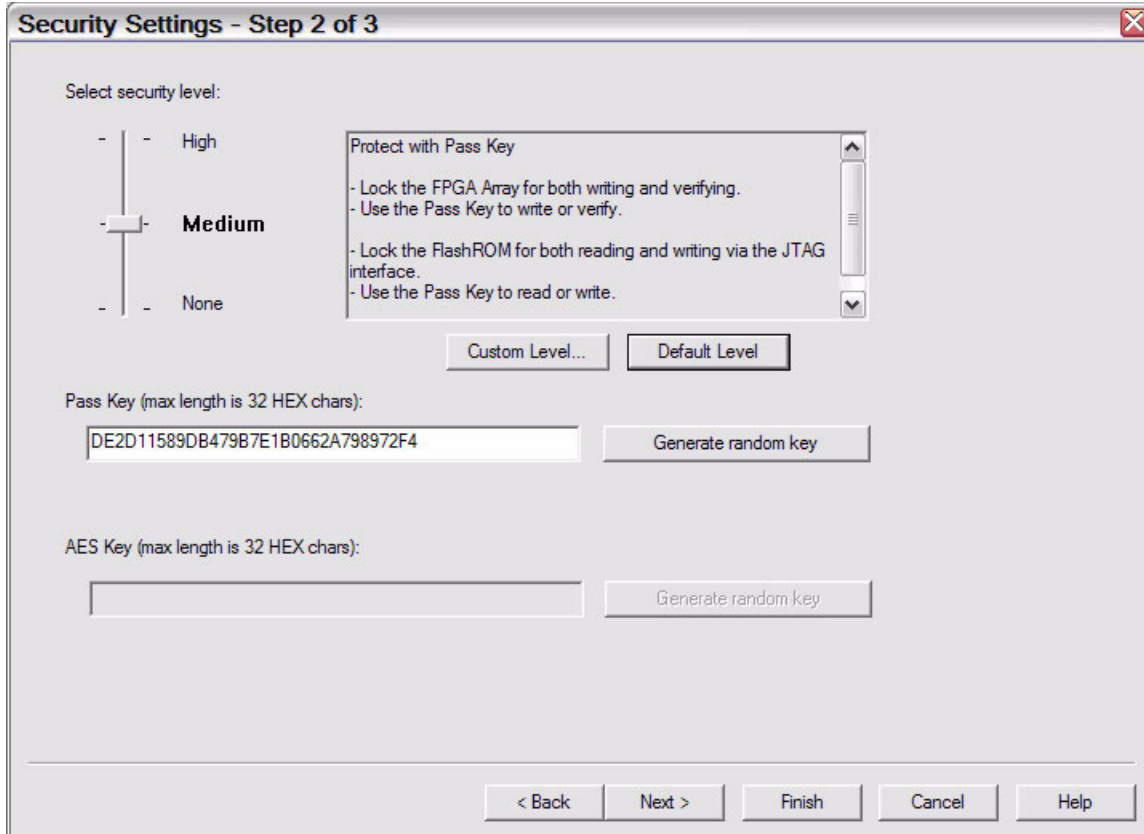

Figure 8 • Medium Security Level Selected
2. Choose the appropriate security level setting and enter a FlashLock Pass Key. The default is the **Medium** security level (Figure 8). Click **Next**.